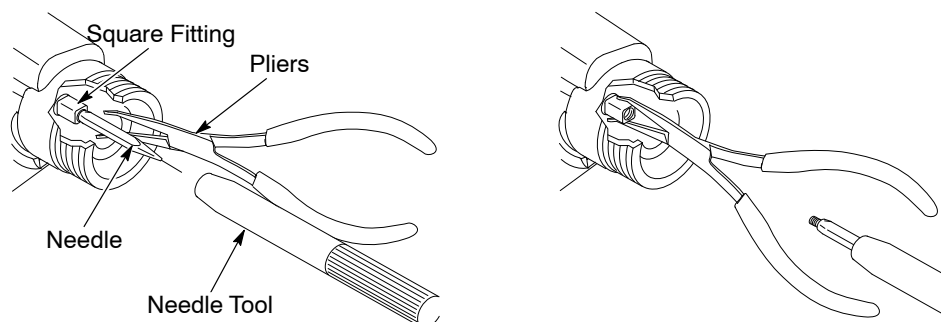

Figure 7-5 Needle Replacement
See Figure 7-5.
5. See Figure 7-5. Insert the bent needle nose pliers into the gun body and grasp the square needle fitting on the end of the packing cartridge.